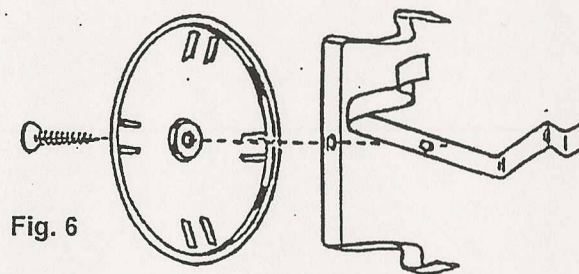

Fig. 6
9. It is recommended that you always use the protection covers. They will prevent damage to the trumpet's diaphragm from rain, bugs, dirt, etc. Assemble Horn Protection Covers as shown in Fig. 6 below. Do not tighten screws, brackets are placed into position on the front of each trumpet and then tighten screws.